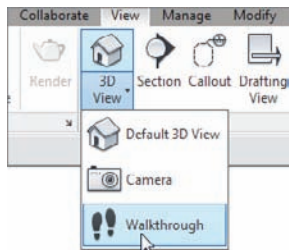

FIGURE 19.18 The Walkthrough command
2. On the View tab, choose 3D View > Walkthrough, as shown in Figure 19.18.